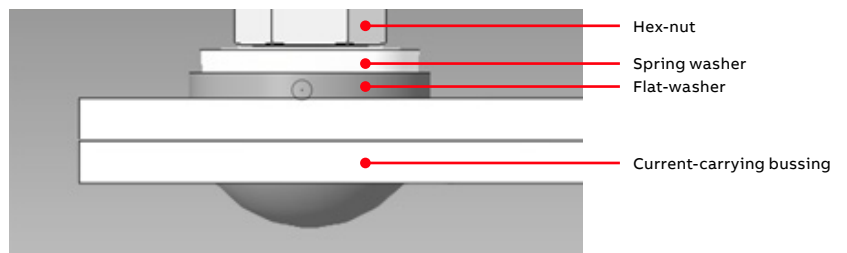

Figure 1: Straps on PH-A and PH-C
### Installation Phase A-C: See Fig 1
**Fase de instalación A-C: Ver Fig. 1**